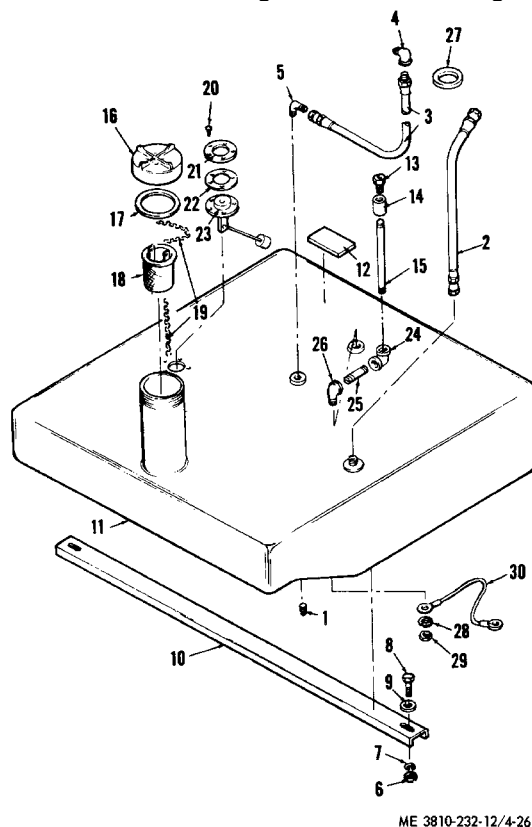

Figure 4-26. Crane fuel tank, lines and fittings, disassembly and reassembly.
(2) Disassemble the crane engine fuel tank, lines and fittings as illustrated in figure 4-26.
illustrated in figure 4-26.